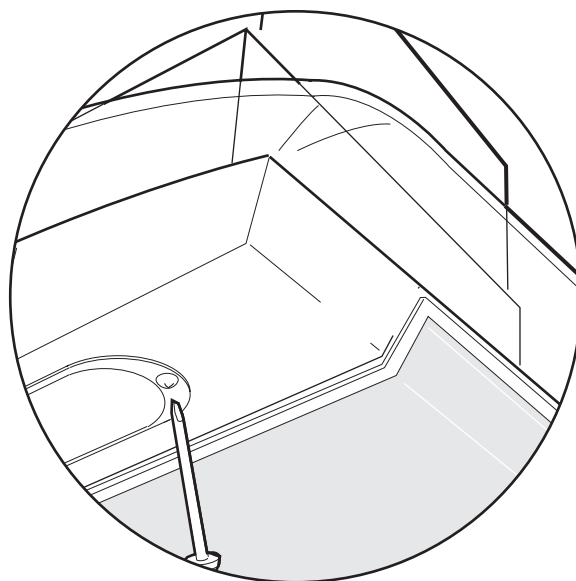

Fig. 10
- With the help of a screwdriver remove the screw that secures the lamp cover (Fig. 10).